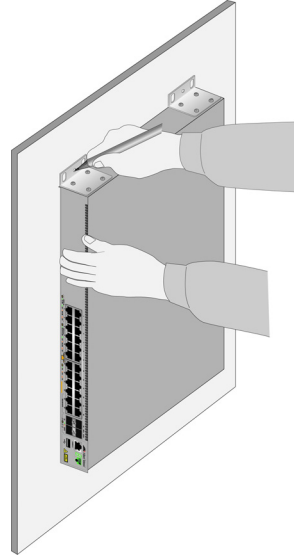

Figure 58. Marking the Screw Holes
5. Have another person hold the switch on the concrete wall at the selected location for the device while you use a pencil or pen to mark the wall with the locations of the screw holes in the brackets. Refer to Figure 58 on page 96.